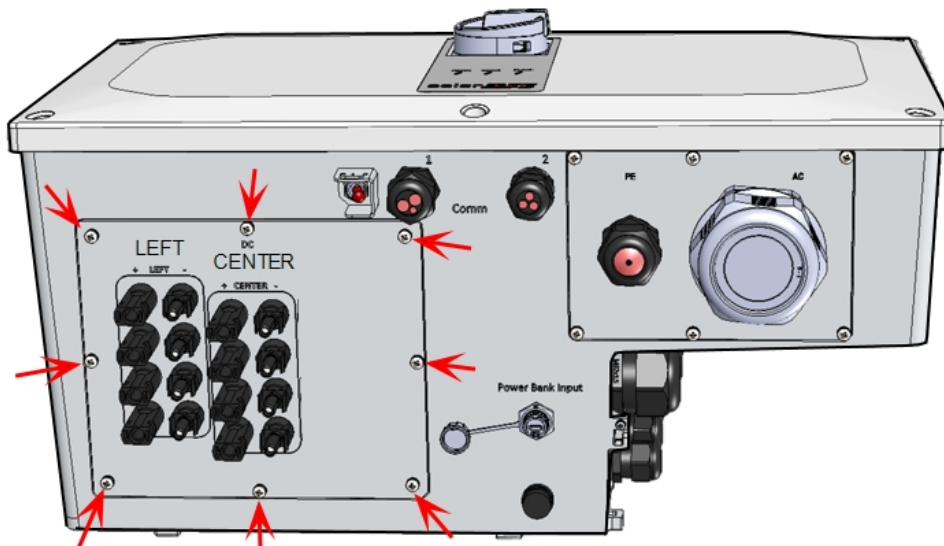

Figure 2: Removing the DC panel at the bottom of the Manager Unit
2. Release the eight screws connecting the DC panel and remove the panel (See *Figure 2*). Verify that the O-ring sits properly in the groove of the Manager Unit housing.